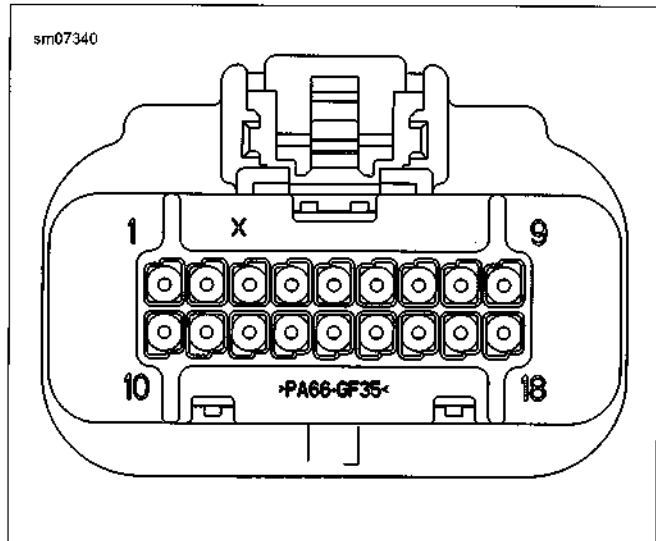

Figure A-71. Cavity Numbers
1. See Figure A-71. Locate the wire lead cavity by number.